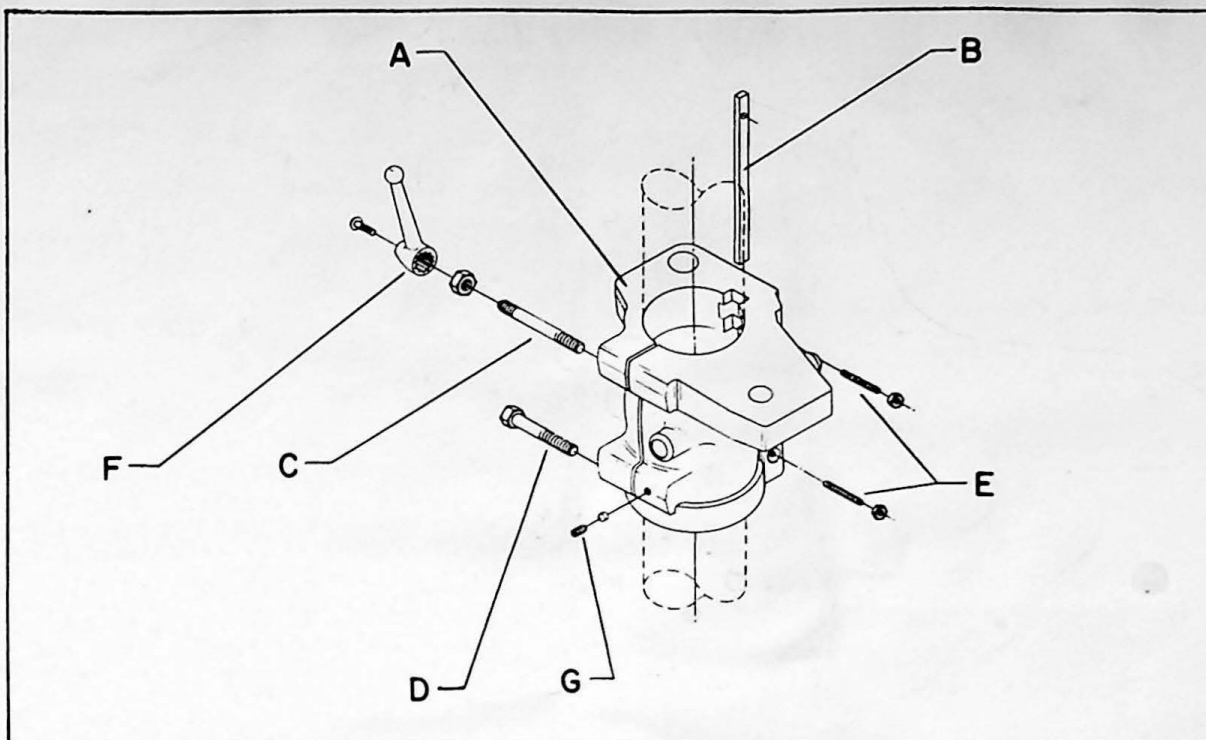

Fig. 13.
Adjustments to the Column Sliding Bracket (A) Fig. 13, and the Column Gib (B) have been made at the factory, however, due to rough handling in transit or after considerable use, the Column Sliding Bracket (A) and Column Gib (B) may have to be adjusted as follows:
1. Loosen both upper and lower bolts (C and D) Fig. 13. NOTE: Before loosening lower bolt (D) make sure set screw (G) is first loosened.
2. Adjust the gib (B) Fig. 13, by adjusting the two gib adjusting screws (E) until a good, snug, sliding fit is obtained.
3. Then adjust the column sliding bracket so it is free from any looseness. This is done by properly adjusting and locking in position the lower locking bolt (D) Fig. 13.
4. Then adjust the upper locking bolt (C) Fig. 13, so that the handle (F) will be in a convenient position when locking the column sliding bracket to the column.